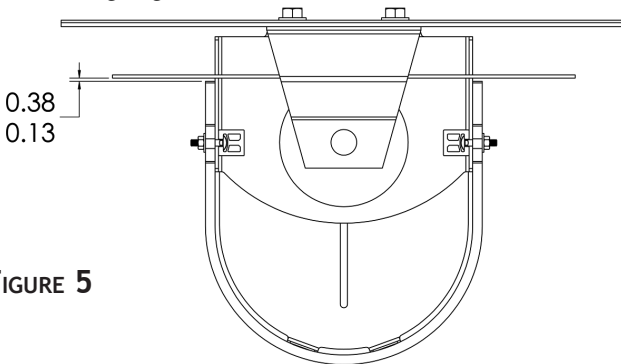

FIGURE 5
Step 4. Adjust the webbing so that it is centered between the mounting brackets and maintains proper clearance between the top of the webs and the belt using either the holes on the mounting bracket or the slots in the web (see figure 5). Tighten all webbing hardware has been properly installed and torque to the recommended specification.